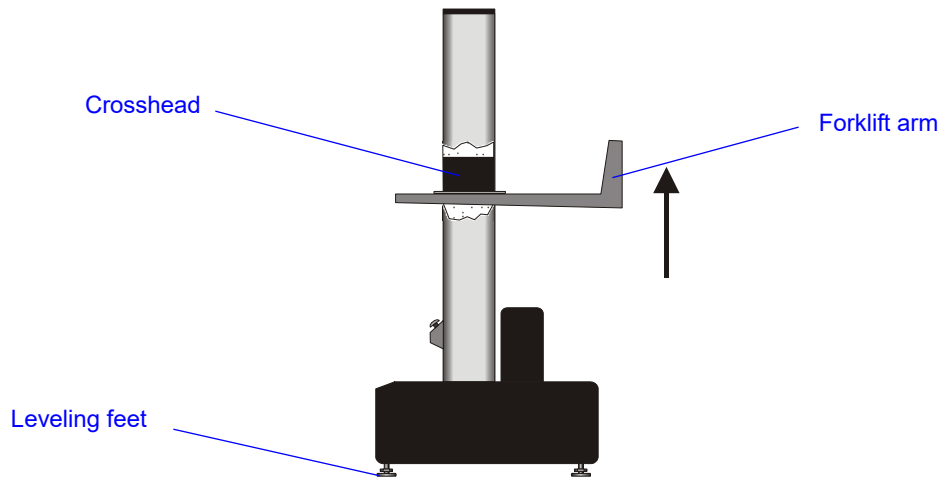

Figure 3-3. Lifting the Frame from the Crosshead
- Crosshead method - Using a forklift with padded forks to lift the load frame from under the crosshead as shown in Figure 3-3 on page 3-11.
2. Using a forklift with padded forks or protective material around the crosshead, carefully insert the forks under the crosshead between the columns. Refer to Figure 3-3 on page 3-11.